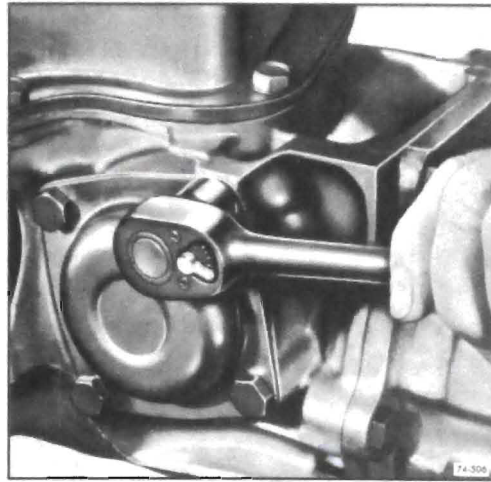

Figure 76-507
1. Remove attaching bolts, governor cover and gasket. See Figure 76-507.